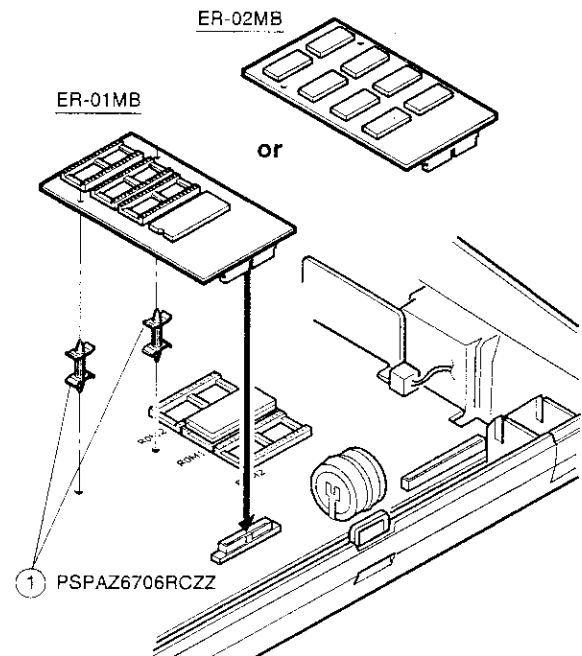

Fig. 4
- 2) Mount the spacer ① on the main PWB unit and place the ER-01MB or ER-02MB expansion RAM board on the RAM connector and the spacer. (Fig. 4)